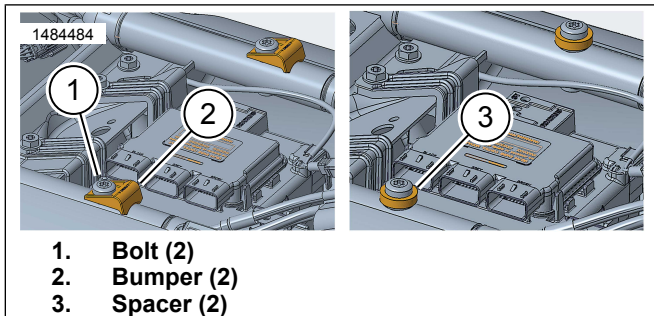

Figure 2. Bumper Removal / Spacer Install
1. See Figure 2. Remove Bumpers.
- a. Remove bolts (1). Retain.
- b. Remove bumpers (2). Discard.
- c. Install spacers (3).
- d. Install Original Equipment (OE) bolts (1). Tighten. Torque: 43.4–49 N·m (32–36 ft-lbs)